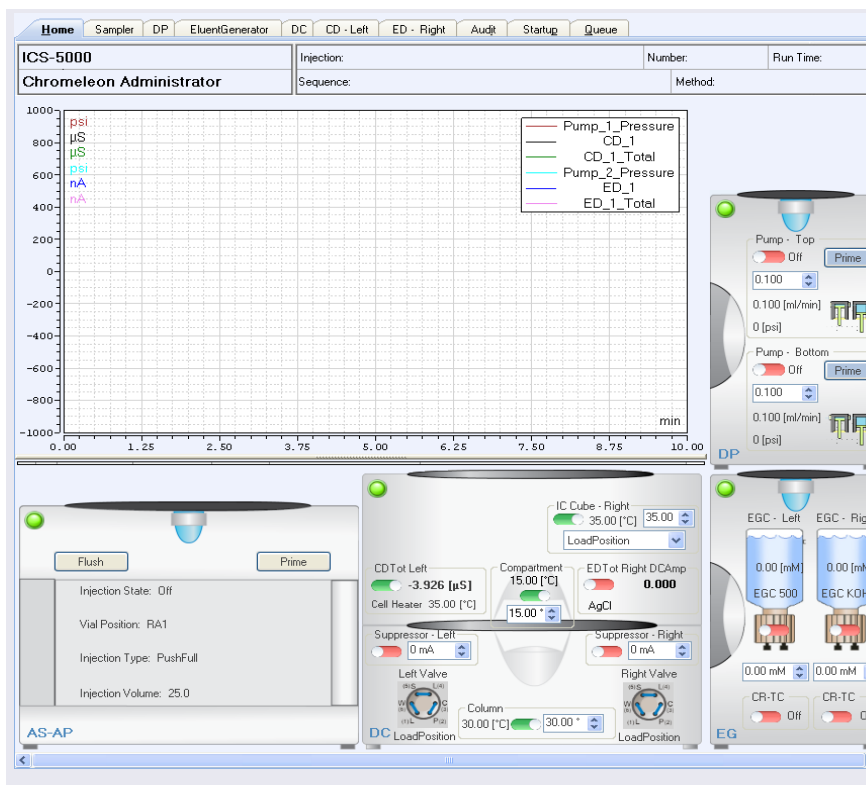

Figure 4-3. Example Chromeleon 7 ePanel Set
2. To display the Chromeleon 7 ePanel Set, click the **Instruments** Category Bar on the Console. Click your instrument in the Navigation Pane. Chromeleon 7 connects to the instrument and displays the ePanel Set (see Figure 4-3).